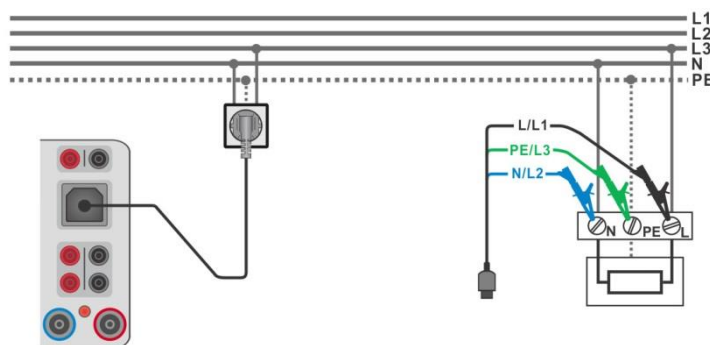

Figure 6.65: Connection of Plug test cable or 3-wire test lead
- Connect 3-wire test lead or Plug test cable to the object under test, see **Figure 6.65**.